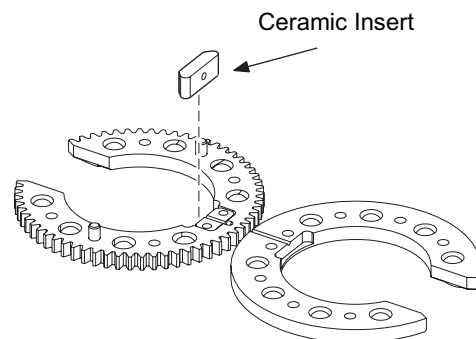

Figure 41 Removing the Ceramic Insert
7. Remove the ceramic insert. See Figure 41.